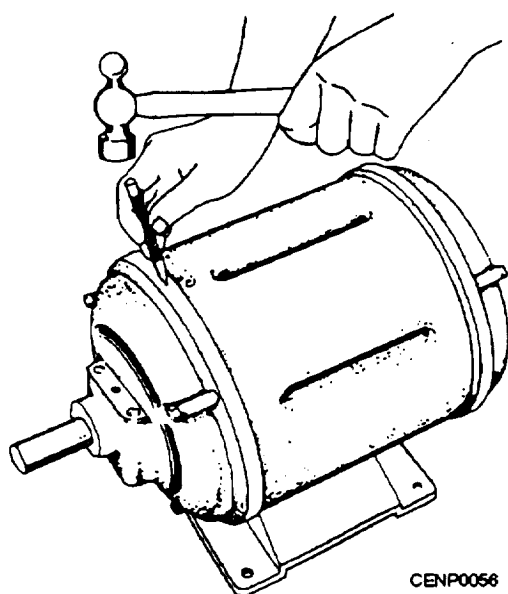

Figure 7-56.—Punch marking motor frame and end belts.
1. Punch mark the frame and end bells for reassembly purposes (fig. 7-56).